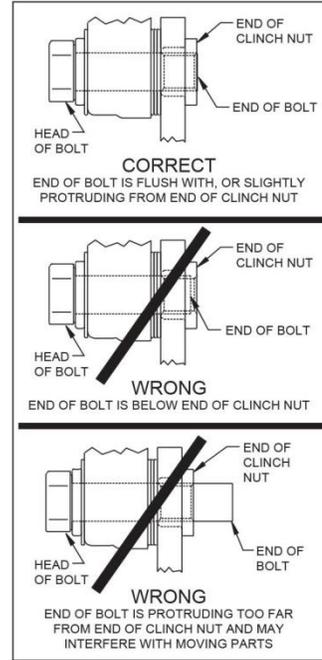

Figure 4. Clinch Nut Engagement Diagram
CAUTION: All mounting bolts must fully engage insert nuts. Be sure to check that all bolts are either flush or protruding through flanged side of insert nut after shimming, Figure 4.
- Pack the small outer bearing cone (15) with high temperature disc brake bearing grease and install into hub (8). Slide the hub/rotor assembly onto the spindle. Secure using spindle washer (16) and OEM spindle nut, Photo 6. Adjust bearings per OEM specifications. Install saved OEM nut lock (if any) and a new cotter pin (not included).
- Install the dust cap (17) onto the hub (8), Photo 7. Friction created by the o-ring (18) on the dust cap (17) keeps it from unscrewing. **NOTE:** *The O.D. of the existing OEM spindle washer may be larger than the I.D. of the dust cap not allowing it to seat against the hub face. Therefore, use the spindle washer (16) supplied with the kit instead of the OEM washer.*
- NOTE:** *Please reference the caution statement at the beginning of the assembly instructions.* Mount the caliper (19) onto the caliper bracket (1) using washers (20) and bolts (21), as shown in Figure 1. Initially place two .035" thick shims (22) on each bolt between the caliper and the bracket, Photo 8. Temporarily tighten the mounting bolts and view the rotor (12) through the top opening of the caliper. The rotor should be centered in the caliper, Photo 9. If not, adjust by adding or subtracting shims between the bracket and the caliper. **NOTE:** *The end of the bolt must be flush with or slightly protruding from the head of the clinch nut. See Figure 4.* Place spare shims (22) between washer and caliper mounting ear to achieve the proper mounting fastener configuration. Always use the same amount of shims on each of the two mounting bolts. Once the caliper alignment is correct, remove the bolts one at a time, apply red *Loctite*® 271 to bolt threads, and torque to 40 ft-lb.
- Install the disc brake pads (23) into the caliper, with the friction material facing the rotor (12) and secure in place using the pad clip retainer (24), Photo 10.